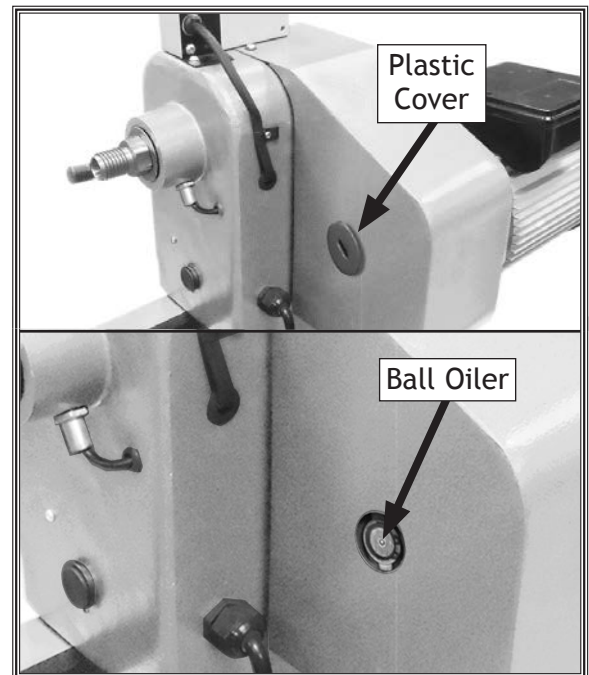

Figure 1. Location to access ball oiler.
2. Remove plastic cover shown in **Figure 1** to access motor shaft ball oiler.
Note: Proper lubrication of ball oiler (shown in **Figure 1**) is done with a pump-type oil can that has a plastic or rubberized cone tip. Do not use metal needle or lance tips, as these can push the ball too far into the oiler, break the spring seat, and lodge the ball in the oil galley.